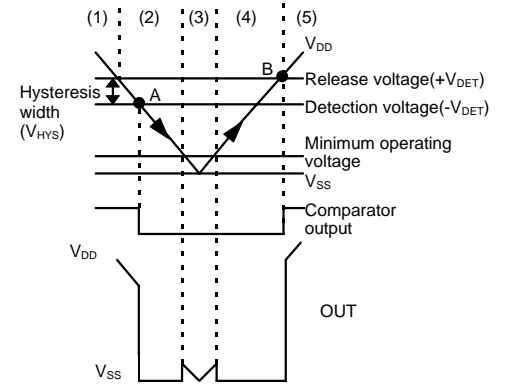

Figure 14
Hysteresis width is the voltage difference between a device's detection voltage and its release voltage (see Figure 14. $V_{HYS}=B-A$). By giving a device hysteresis, erroneous toggling of the output due to noise at the input is avoided.
- (3) When V_{DD} falls below the minimum operating voltage, the output becomes undefined. However, output will revert to V_{DD} if a pull-up has been employed.
- (4) V_{SS} will again be output when V_{DD} rises above the minimum operating voltage. V_{SS} will continue to be output even when V_{DD} surpasses $-V_{DET}$, as long as it does not exceed the release voltage $+V_{DET}$.
- (5) When V_{DD} rises above $+V_{DET}$ (B in Figure 14), the Nch transistor goes OFF, the Pch transistor goes ON, and V_{DD} appears at the output.